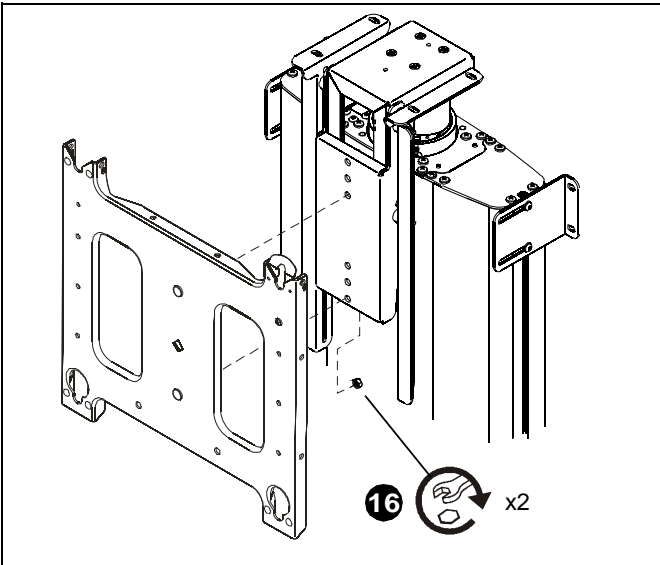

Figure 7
16. Secure faceplate to faceplate mounting bracket using two locknuts. (See Figure 7)